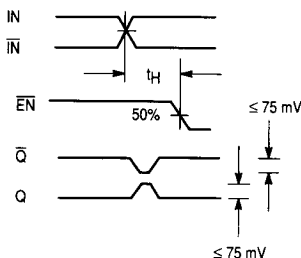

Figure 2. Hold Time
6. The hold time is the minimum time that \overline{EN} must remain asserted after a negative going IN or a positive going IN to prevent an output response greater than ± 75 mV to that IN/ \overline{IN} transition (see Figure 2).